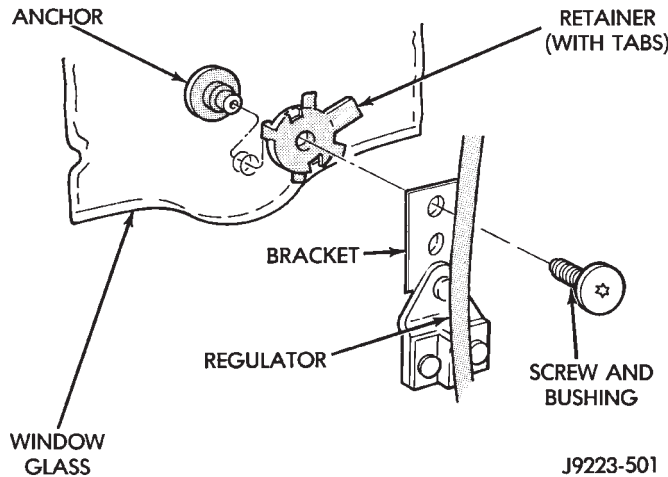

Fig. 58 Regulator To Glass Screw Removal/ Installation
- (1) Remove the door trim panel.
- (2) Remove the waterdam.
- (3) Remove the bolt attaching the window glass to the regulator and support the glass (Fig. 58).